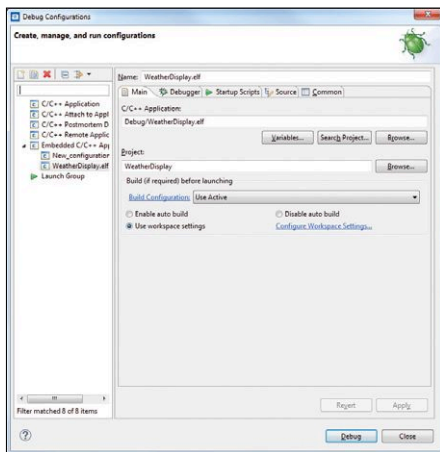
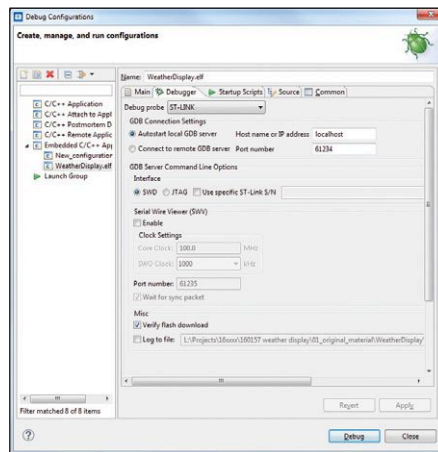
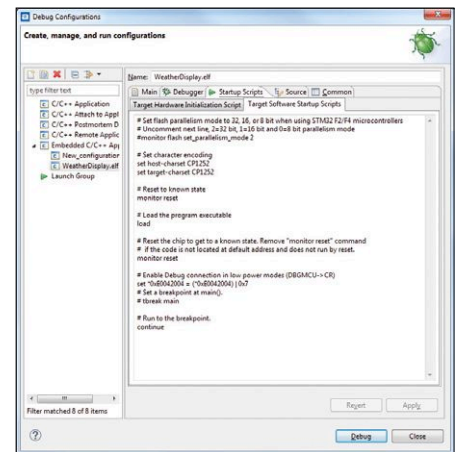

Figure 8. Nucleo configuration: the Main tab.
Figure 9. Nucleo configuration: the Debugger tab.
Figure 10. Nucleo configuration: the Startup Scripts tab.
7. Configuration: go to *Run → Debug Configurations* and double-click on *Embedded C/C++ Application*. Then copy the configurations shown in the screenshots for the *Main* tab (Figure 8), the *Debugger* tab (Figure 9) and the *Startup Scripts* tab (Figure 10).